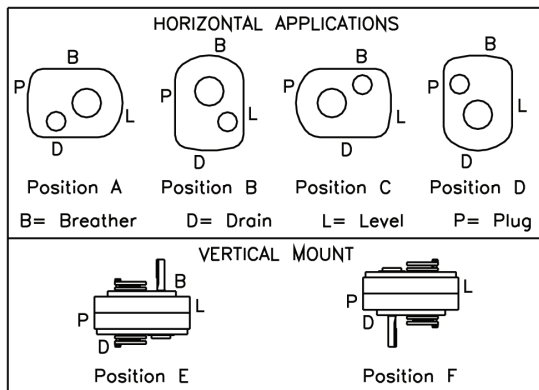

Figure 1 - Mounting Positions
2. Determine the running positions of the reducer. (See Fig. 1)
Vertical Installations - Install the filter/ventilation plug in the hole provided in the upper face of the reducer housing. If space is restricted on the upper face, install the vent in the highest hole on the side of the reducer per Figure 1 using the optional vertical vent kit. Install a plug in the hole in the bottom face of the reducer. Do not use this hole for the magnetic drain plug. Install the magnetic drain plug in the lowest hole on the sides of the reducer. Of the remaining holes on the sides of the reducer, use the plug in the upper housing half for the minimum oil level plug.
Below 15 RPM output speed, oil level must be adjusted to reach the highest oil level plug. If reducer position is to vary from those shown in Figure 1, either more or less oil may be required. Consult your local representative.
The running position of the reducer in a horizontal application is not limited to the four positions shown in Fig. 1. However, if running position is over 20° in position "B" & "D" or 5° in position "A" & "C", either way from sketches, the oil level plug cannot be used safely to check the oil level, unless during the checking, the torque arm is disconnected and the reducer is swung to within 20° for position "B" & "D" or 5° for position "A" & "C" of the positions shown in Fig. 1. Because of the many possible positions of the reducer, it may be necessary or desirable to make special adaptations using the lubrication filling holes furnished along with other standard pipe fittings, stand pipes and oil level gauges as required.
① Oil quantity is approximate. Service with lubricant until oil runs out of oil level hole.
② Refer to Figure 1 for mounting positions.
③ US measure: 1 quart = 32 fluid ounces = .94646 liters.
④ Conversion from quarts rounded values.
⑤ Below 15 RPM output speed, oil level must be adjusted to reach the highest oil level plug. If reducer position is to vary from those shown in Figure 1, either more or less oil may be required. Consult Dodge.
⑥ Consult Dodge for proper oil level for reducers equipped with backstops and which are mounted in either the C position or D position.